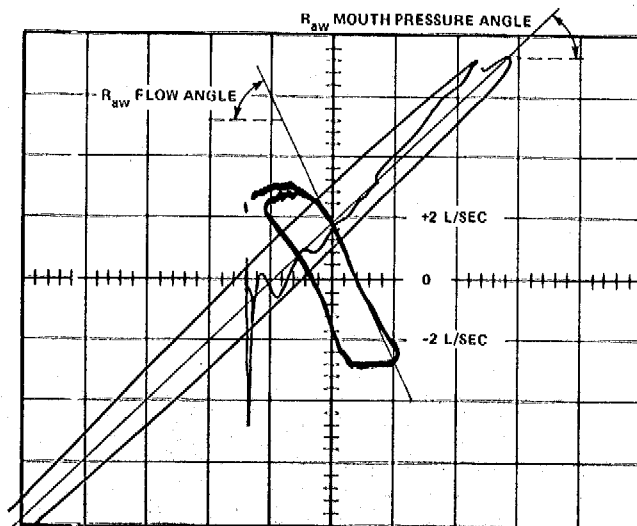

Figure 33 - Measurement of  $R_{aw}$  Angles
C.16. Refer to Figure 33. Using the graticule, record the  $R_{aw}$  angles for calculations. Whether expiratory or inspiratory airway resistance is to be measured, Collins recommends that the +2 L/SEC or -2 L/SEC (respectively) flow point (one major division at standard calibration) and FRC point be established for the  $R_{aw}$  flow angle. Photograph the trace if desired.